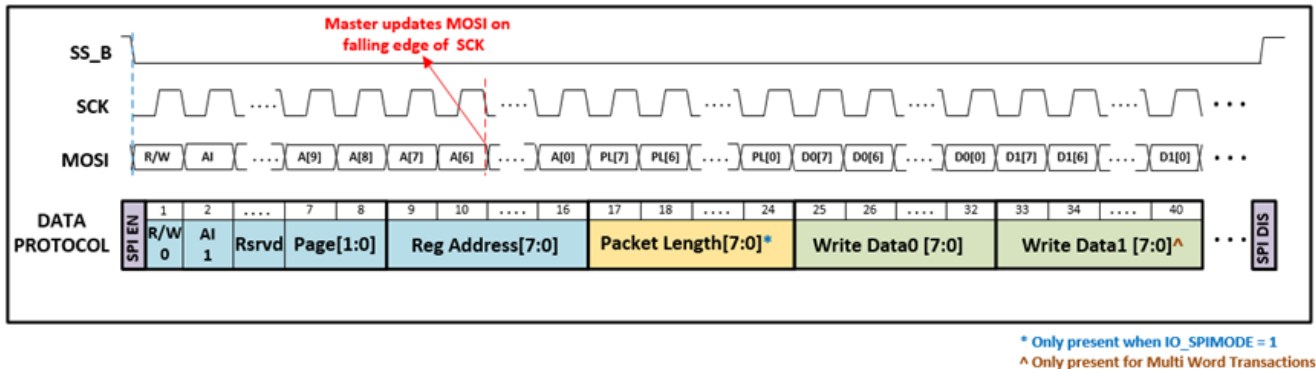

Figure 44. SPI Write Transaction with IO_SPIMODE = 1; IO_SPICPOL = 0; IO_SPICPHA = 0
3. Drives SS_B high to terminate the transaction as shown in Figure 44.